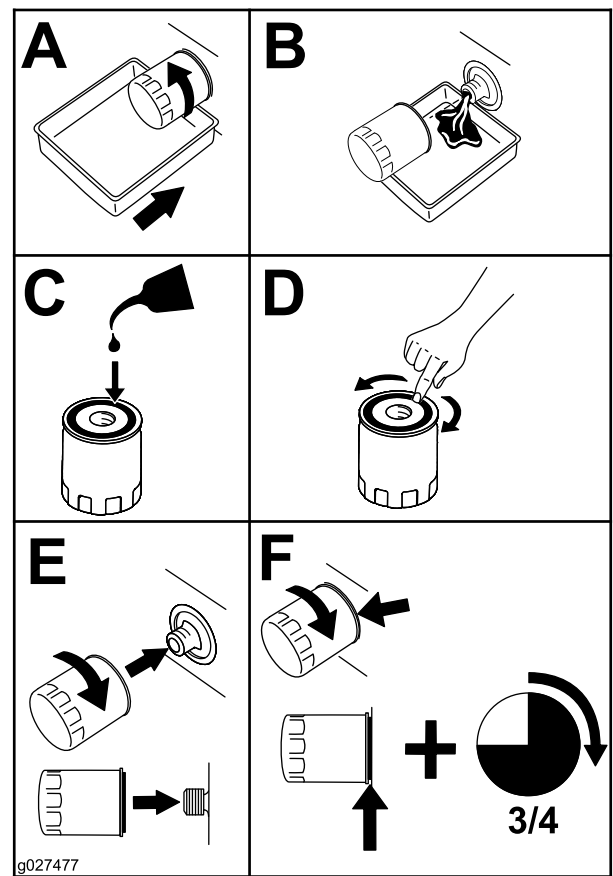

Figure 45
6. Replace the engine-oil filter as shown in Figure 45.